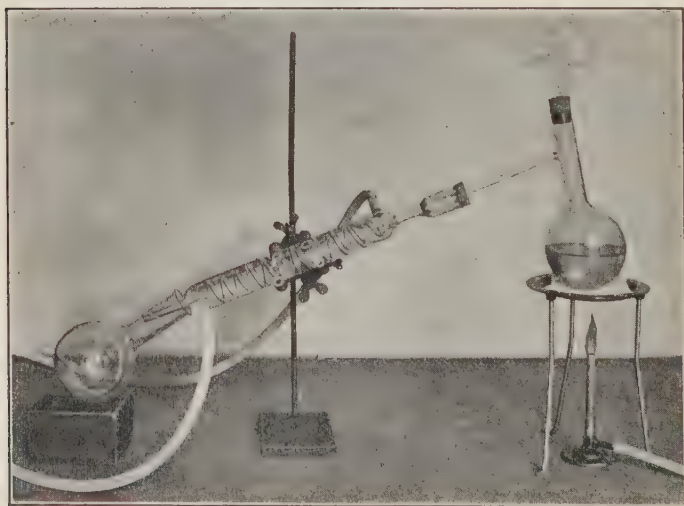

FIGURE 200. — A STILL WITH A COILED WORM.
**137. Distillation.**—The two steps in the distillation of a liquid are vaporization and condensation. Condensation is usually accomplished by passing the vapor through a tube kept cool by water circulating through an outer jacket (Figure 199). Sometimes the tube is curved, as in the worm condenser (Figure 200), so as to increase the condensing area.